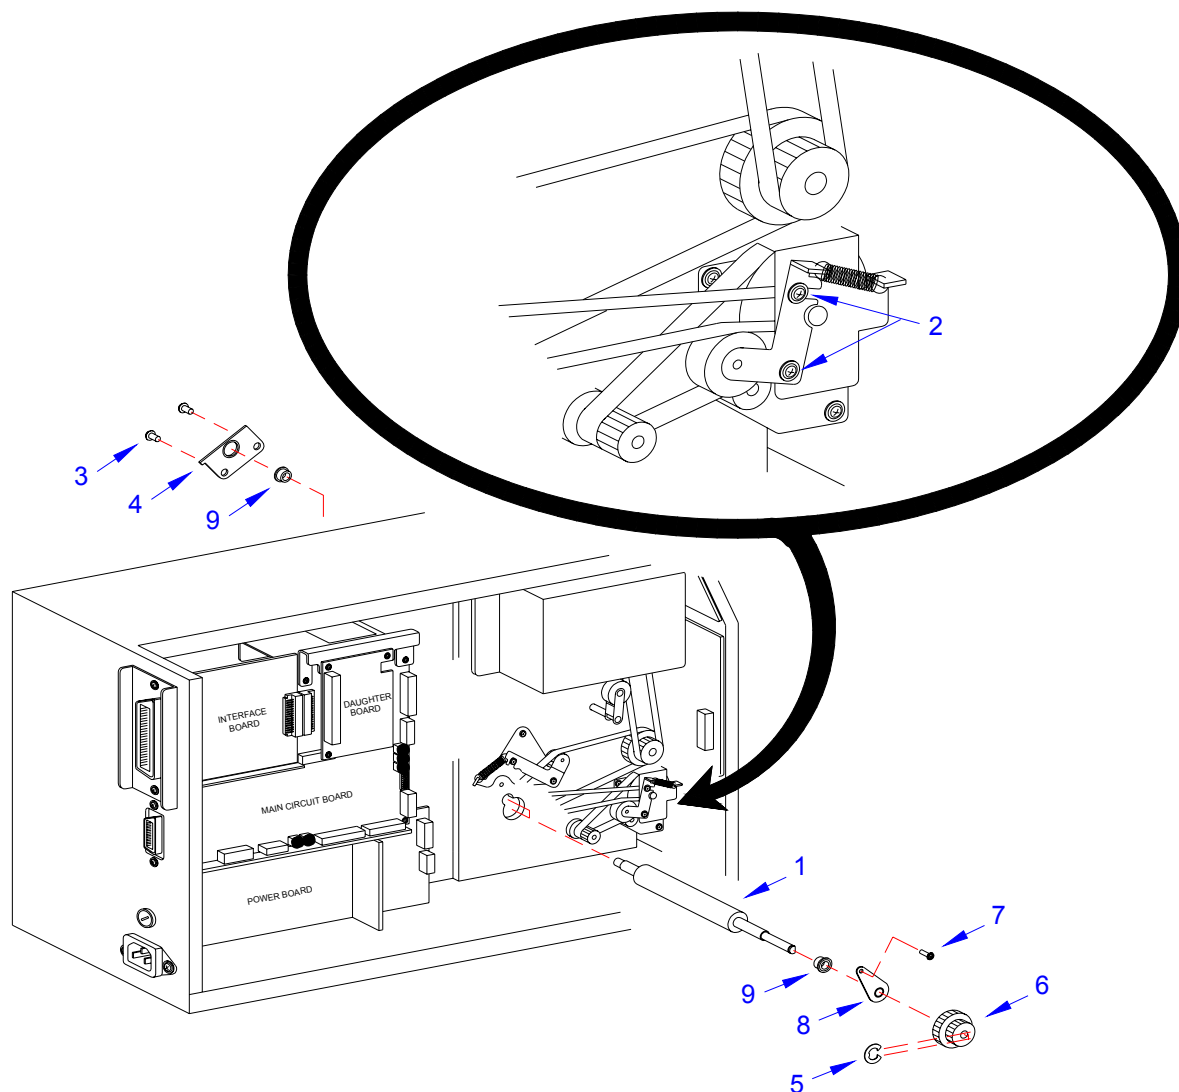

Figure 7-11, Feed Roller Replacement
- 3 Remove ribbon and media to provide free access to drive roller (1, Figure 7-11).